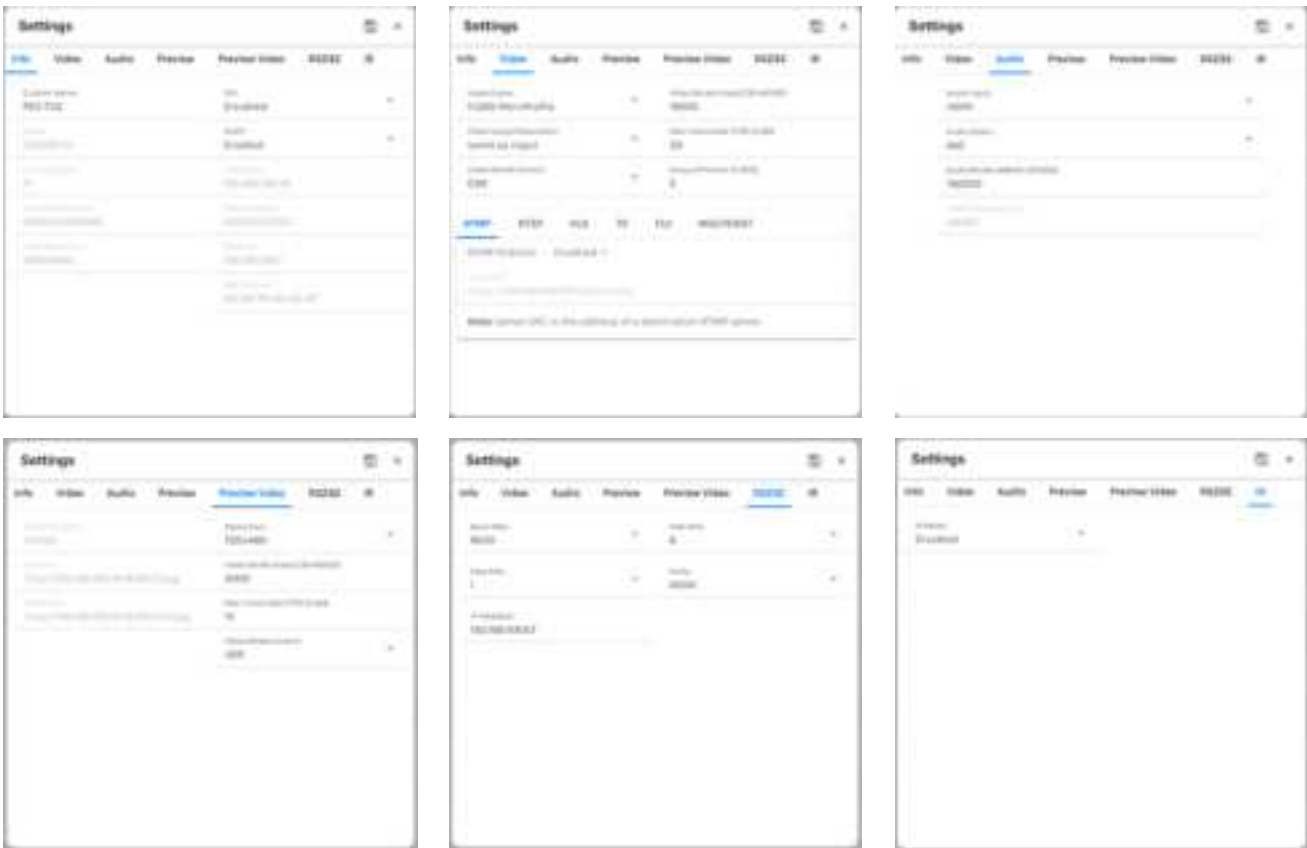

Figure 19
a.) Device Settings: This option allows the user to have complete information about the device, configure the video by selecting the protocol you need to use, select the input or output resolution, select the type of audio codec you need, configure the preview resolution, configure the port RS232 and configure the IR port. Figure 19